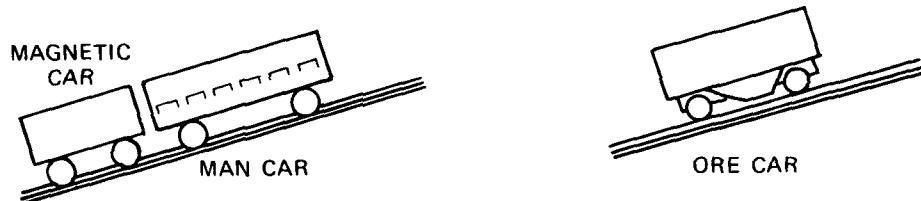

Figure 10
- ore cars—to carry ore, waste, and some heavy equipment. Ore cars can be dumped by turning them upside down or by opening the bottom. (See Figure 10)